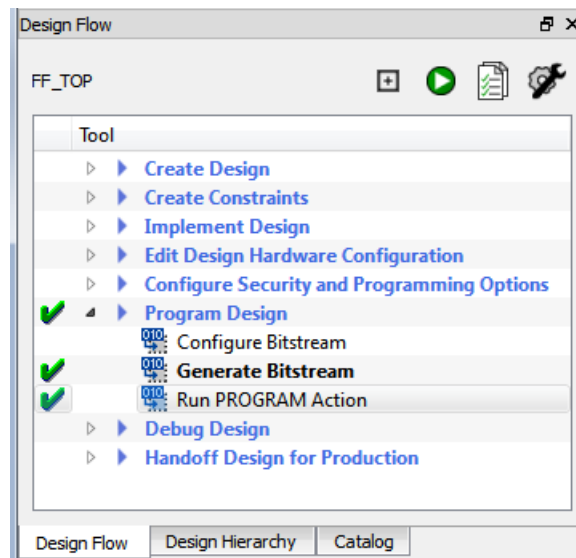

Figure 8 • Program the Design
- Expand **Program Design** in the **Design Flow** window. Double-click on **Run PROGRAM Action** to begin programming as shown in Figure 8. A green check mark appears next to the **Program Design** in the **Design Flow** window to indicate programming is completed successfully.